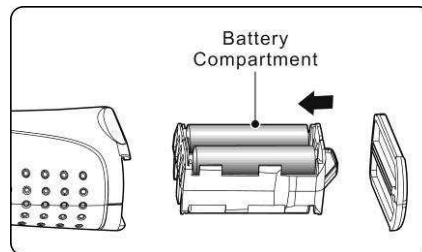

Fig. 5
- ✓ To remove the batteries, hold handheld display unit to remove the battery compartment and then remove batteries (**Fig. 5**).
- ✓ To install the batteries, remove the battery compartment and insert four (4) new AA batteries